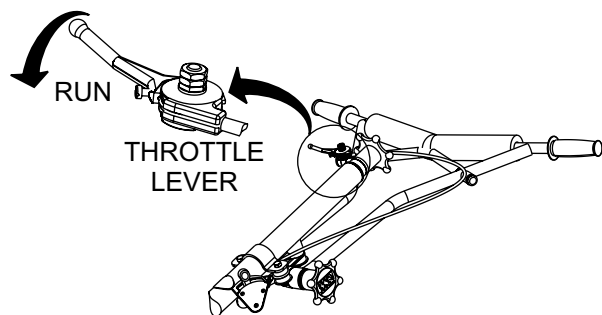

Figure 32. Throttle Lever (Run)
1. To begin troweling, push the throttle lever (Figure 32) forward to the "RUN" position.